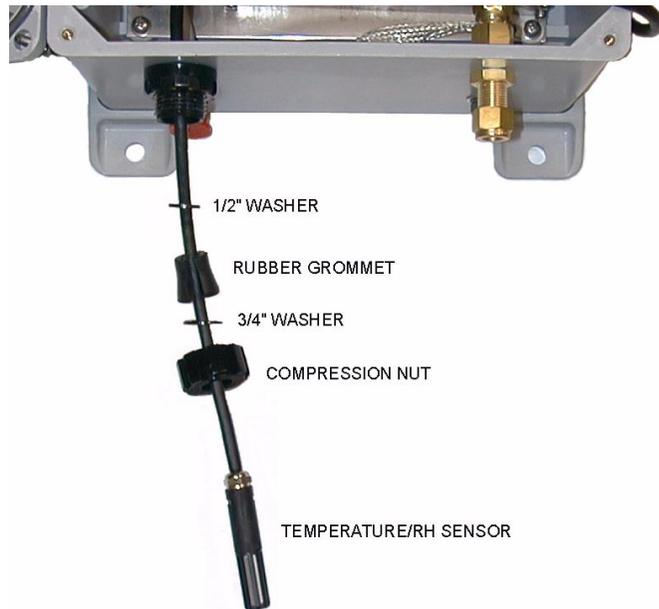

Figure 10-23 Payload Stuffing Tube
9. Unscrew the compression nut from the stuffing tube where the T/RH cable enters the GSOS enclosure (see Figure 10-23).
16. Feed the T/RH sensor through the stuffing tube (and its washers and grommet) as shown in Figure 10-23. The T/RH probe body is too large to fit through the stuffing tube washers and grommet. Make diagonal cuts in the washers and grommet with diagonal cutters or a utility knife.